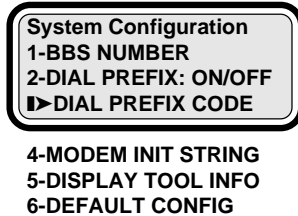

Figure 1.11: System Configuration
- Select DIAL PREFIX CODE from the SYSTEM CONFIG menu (See Fig 1.11).